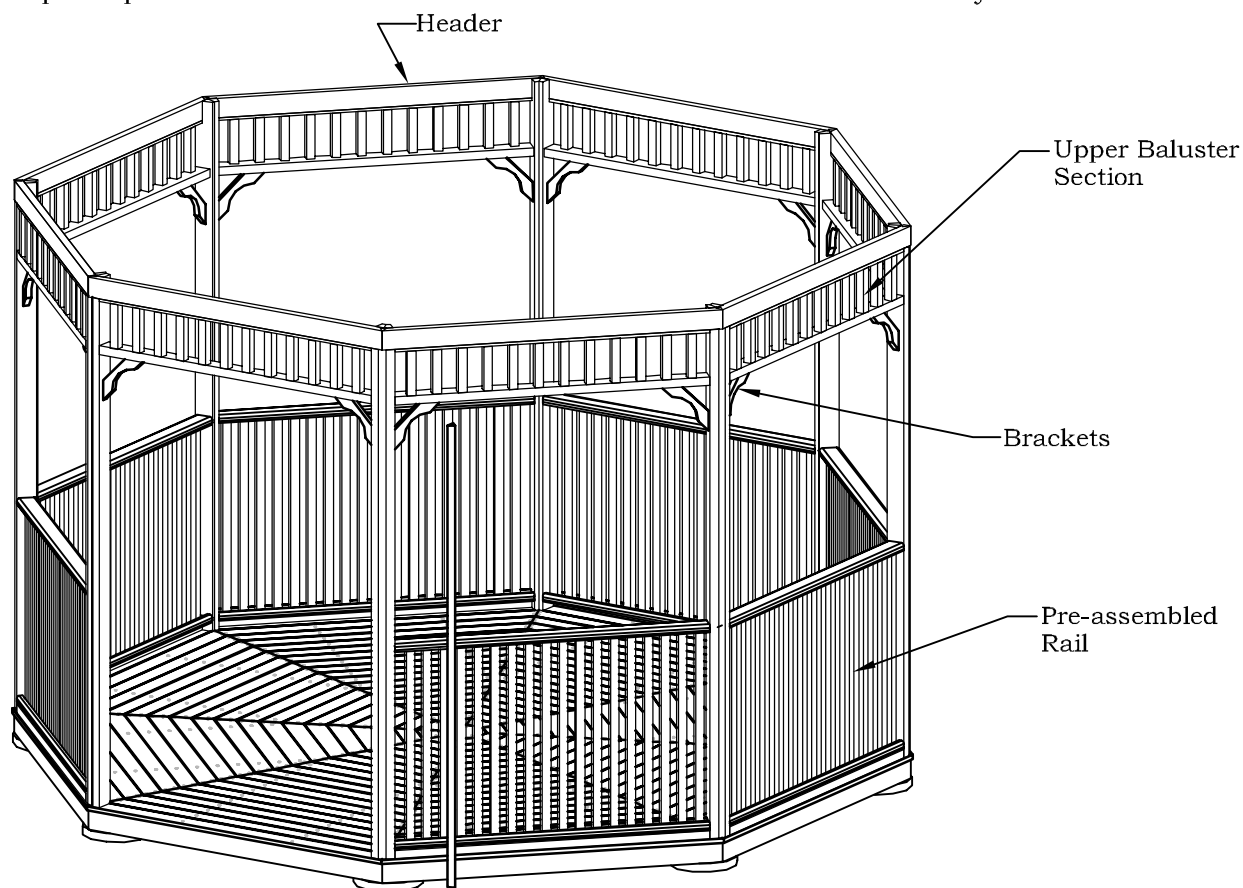

FIGURE S9
- Figure S9 illustrates the completed wall section. Wall assembly can be divided into two stages. First, the posts are attached to the pre-assembled Rail units. Second, the completed posts and rail sections are erected and mounted on the Deck assembly.